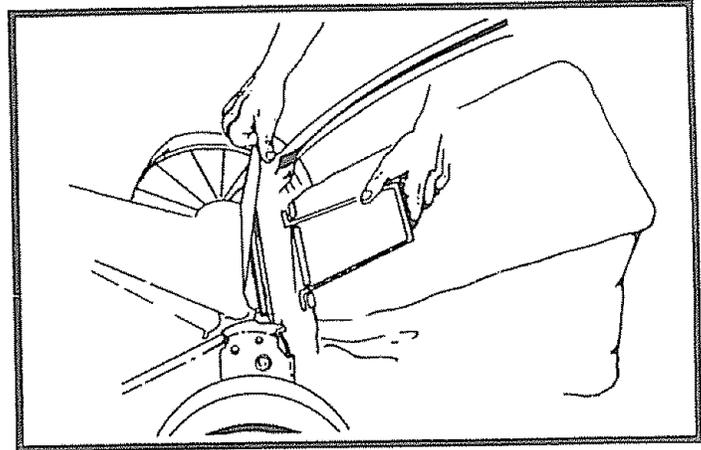

FIG. 6B
- Lift up Rear Door and remove the Grass Catcher by the Handle (See Fig. 6B).